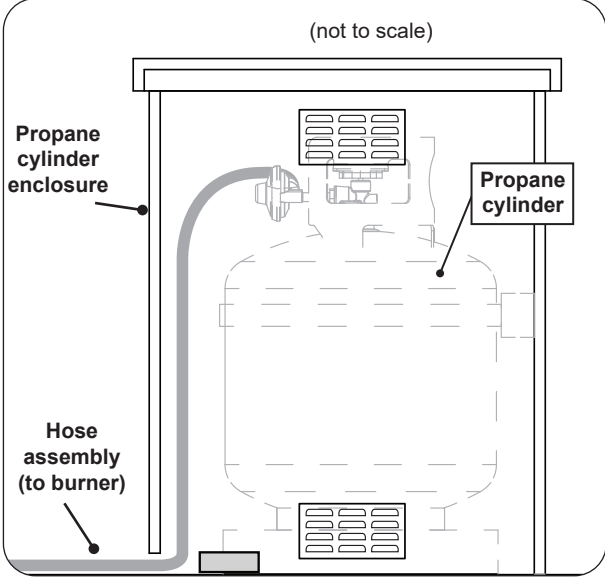

Fig. 27-3 L.P. Cylinder placement
3. The propane cylinder (not included) is to be located inside the separate propane cylinder enclosure (see Fig. 27-3).